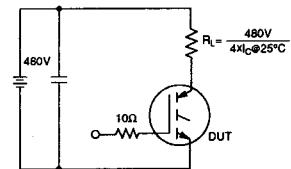

Fig 12b. Pulsed Collector Current Test Circuit
- ① Repetitive rating; $V_{GE} = 20\text{V}$, pulse width limited by max. junction temperature (See figure 12b).